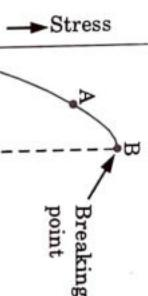

Fig. 1.10.1. Stress-strain diagram for brittle materials.
- Upper Yield Point (B) :** This is the stress at which, the load starts reducing and the extension increases. This phenomenon is called yielding of material.
- Lower Yield Point (C) :** At this stage the stress remains same but strain increases for same time.
- Ultimate Stress (E) :** This is the maximum stress the material can resist. At this stage cross-sectional area at a particular section starts reducing very fast. This is called neck formation. After the stage load and hence the stress developed starts reducing.
- Breaking Point (F) :** The stress at which finally the specimen fails is called breaking point. At this point strain is 20 to 25 per cent.
- Fig. 1.10.1 shows the stress-strain diagram for brittle material in which strain is plotted along x-axis and corresponding stress is plotted along y-axis.